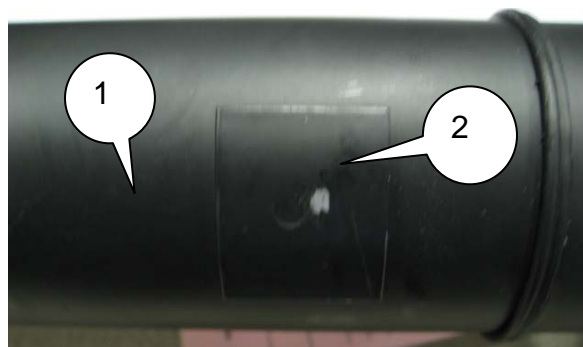

Figure 3
5. If a balance weight is found (Fig 3), proceed to the next step.